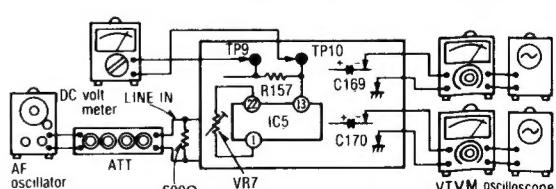

Fig. 20
1. Make the connections as shown in fig. 20 and apply 1kHz -27 dB signal from LINE IN, and set the noise reduction selector to dbx tape position.